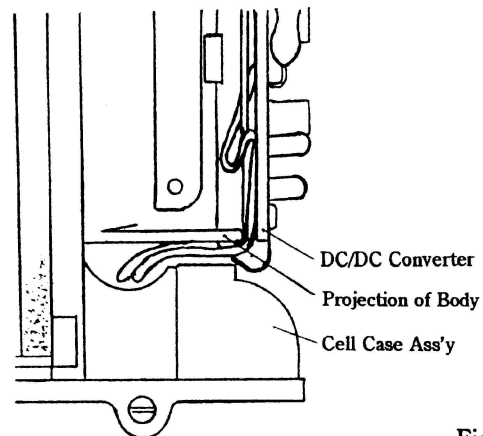

Fig. 15
- a) Place the lead wires (Pink and Black) of the Cell Case between the projection on the left side of the Body and the Cell Case. Take care not to dress the lead wires over the projection on the left side of the Body or over the Cell Case. (See Fig. 15)